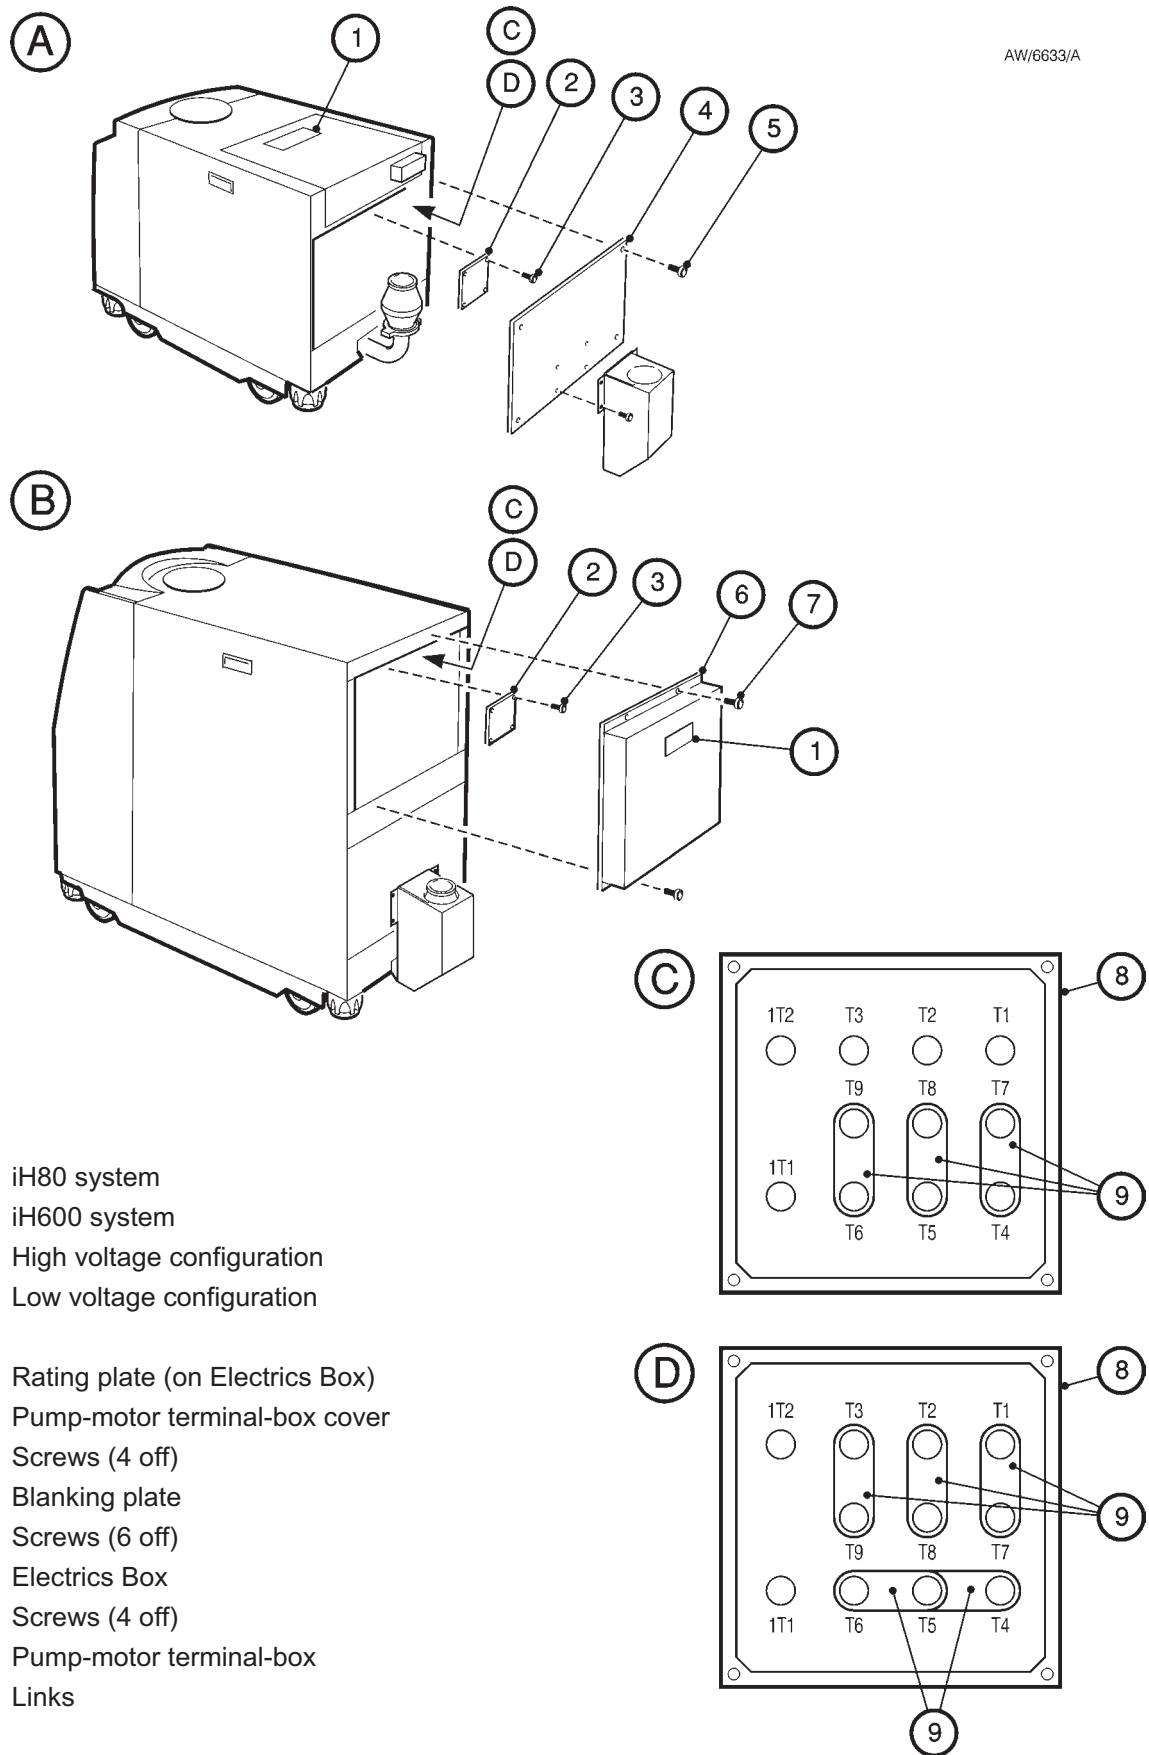

Figure 3-9 - Reconfigure the pump-motor terminal-boxes (iH80/iH600 only)
*Note: You cannot reconfigure an iH1000 system. If you want to use an iH1000 system with a different electrical supply to that specified on the rating plate (Figure 3-9, item1), contact your supplier or BOC Edwards.*
Your iH system will be supplied correctly configured for your electrical supply; the Item Number of the iH system (shown on the rating plate: Figure 3-9, item 1) specifies how the system is configured: refer to Section 2.13.
*Note: You cannot reconfigure an iH1000 system. If you want to use an iH1000 system with a different electrical supply to that specified on the rating plate (Figure 3-9, item 1), contact your supplier or BOC Edwards.*
1. Refer to Figure 3-9 detail A. Undo and remove the six screws (5) which secure the blanking plate (4) over the HCDP pump-motor, and remove the blanking plate.
2. Undo and remove the four screws (3) which secure the cover (2) to the HCDP pump-motor terminal-box.
3. Look at the links in the terminal-box (8):
- For high voltage operation (380-415 V at 50 Hz or 460 V at 60 Hz), ensure that the links (9) are in the positions shown in detail C.
- For low voltage operation (200-208 V at 50 Hz or 200-230 V at 60 Hz), ensure that the links (9) are in the positions shown in detail D.
4. Refer to detail A. Refit the cover (2) to the HCDP pump-motor terminal-box and secure with the four screws (3).
5. Refit the blanking plate (4) and secure with the six screws (5).
7. Refer to detail B. Undo and remove the four screws (7) which secure the Electrics Box (6) to the rear of the iH system, then carefully lower and support the Module. Ensure that you do not disconnect, break or damage any of the cables connected to the Module.